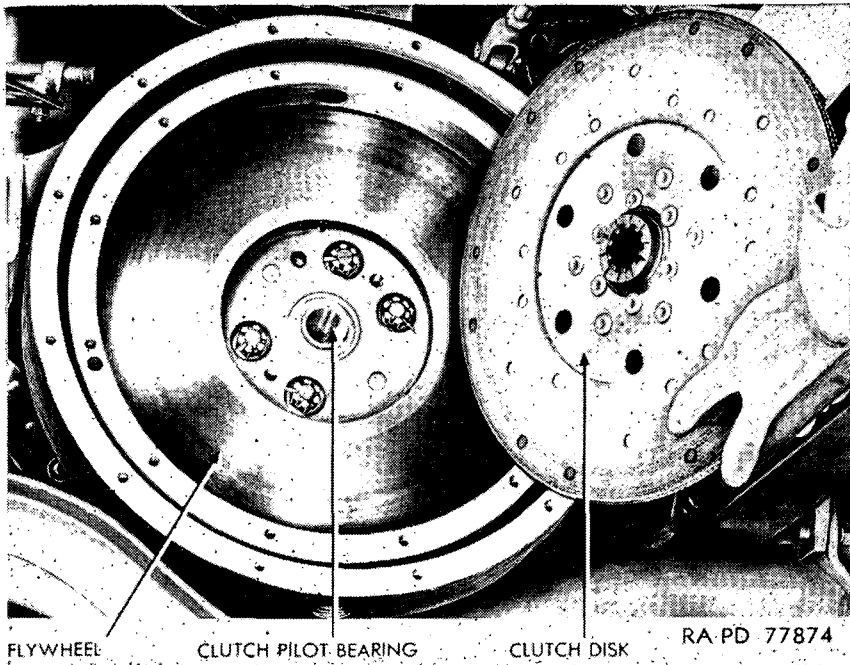

Figure 27.1 Clutch disk and pilot bearing.
- d. REMOVE CLUTCH PILOT BEARING. Remove clutch pilot bearing from seat in engine flywheel (fig. 27.1).
a. INSTALL PILOT BEARING (fig. 27.1). Care must be taken when installing clutch pilot bearing into engine flywheel. Bearing must be seated perfectly in order to maintain alignment of main drive gear, clutch disk, and pilot bearing. Pack bearing with lubricant (par. 16). Use a clutch pilot if available. If pilot is not available, carefully tap clutch pilot bearing into seat in flywheel with brass drift. Open side of bearing must face toward engine. Make certain bearing is started into flywheel evenly before forcing it fully into seat.
b. **INSTALL CLUTCH DISK** (fig. 27.1). Place clutch disk against engine flywheel. Tapered ends of splines in disk hub must face away from flywheel. A pilot may be used for alinement of disk with clutch pilot bearing. If a pilot is not available, proper alinement can be obtained after installation of pressure plate assembly.